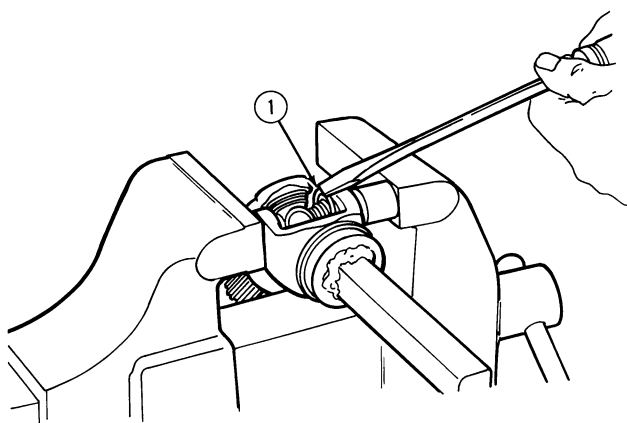

Figure 12
5. Loosen the vise and repeat step 4 for the other bearing cup. Install the snap ring (1), Figure 12, in the yoke.